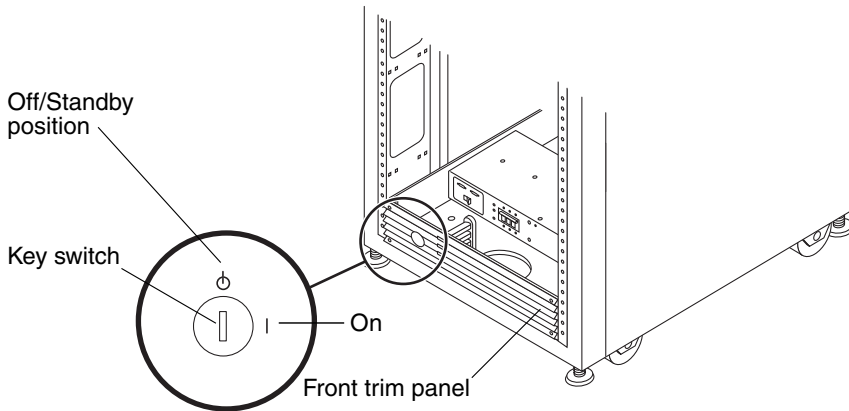

FIGURE 2-13 Location of the Key Switch on the Bottom Front Panel of the Base Cabinet
2. **Insert a key into the Standby/On key switch at the bottom of the front panel (FIGURE 2-13).**
Note – The position of the key switch does not matter for local power-on and power-off operations (FIGURE 2-13). If you want to enable remote power management, set the key to the Standby position and refer to “Preparing the System for Remote Power Management” on page 125 for instructions.
8. Turn the key switch, located at the bottom of the front panel, to the On position (FIGURE 2-13).